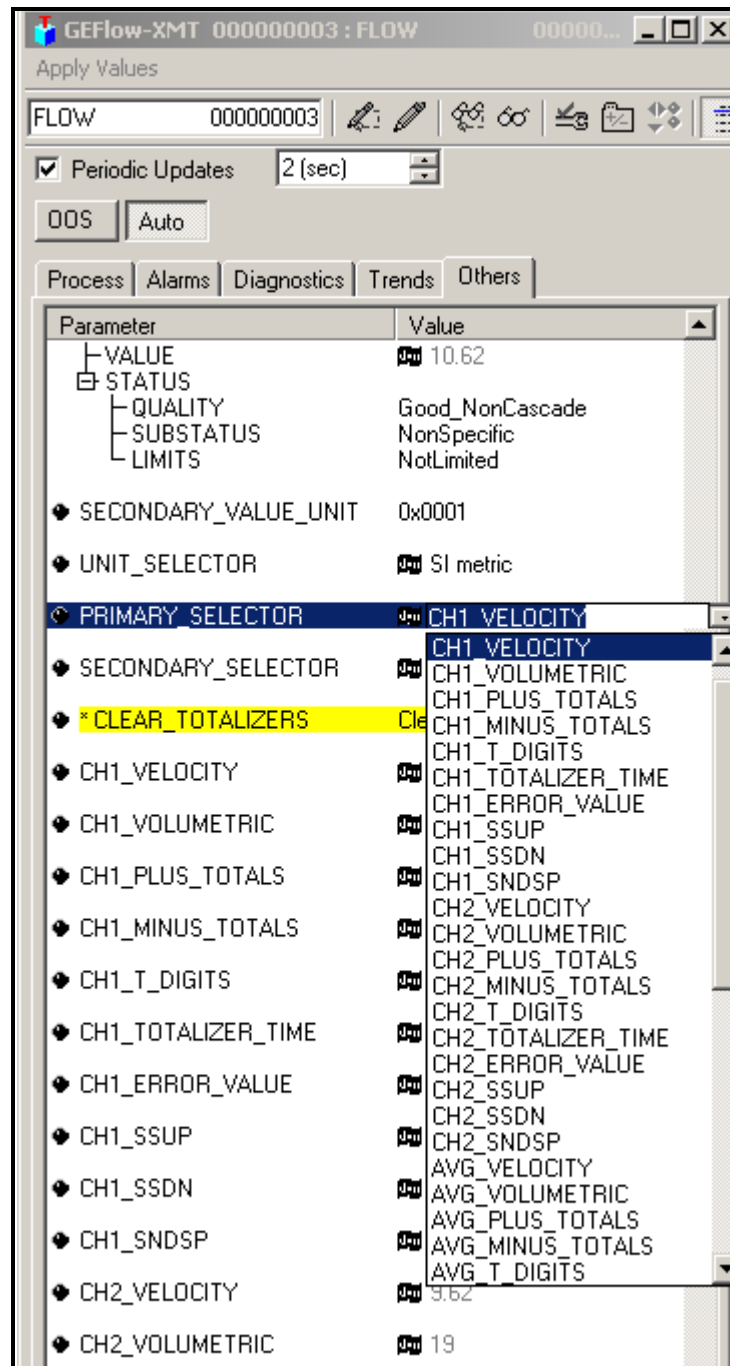

Figure 40: Primary Selector Drop Down List
2. Select the **Others** tab and open the drop down list for the PRIMARY_SELECTOR and SECONDARY_SELECTOR (refer to Figure 40 on page 109).
3. Choose the unit from the list (see Figure 40 on page 109).